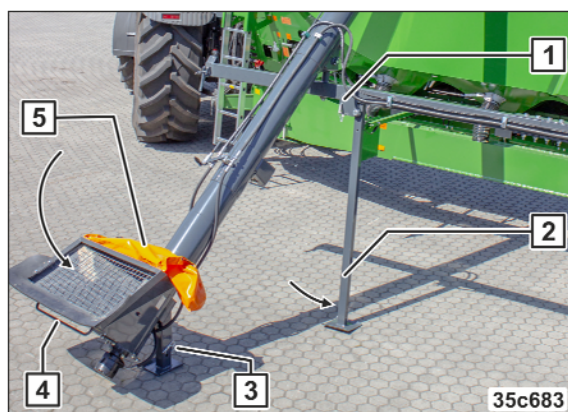

Fig. 247
4. Release locking mechanism (Fig. 247/1).
5. Swivel the jack (Fig. 247/2) down and lock it.
6. Swivel the jack (Fig. 247/3) down and lock it.
7. Using the handle, swivel the filling auger (Fig. 247/4) into working position.
8. Open the funnel tarp (Fig. 247/5).
13. Close the funnel tarp (see Fig. 247/5).
14. Swivel the jack up and lock it (see Fig. 247/2).
15. Swivel the jack up and lock it (see Fig. 247/3).